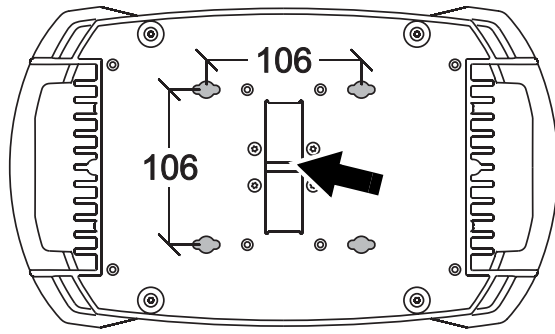

Figure 3: Safety cable attachment point
5. See Figure 3. Secure the fixture against clamp or bracket failure with a safety wire that can bear at least 10 times the weight of the fixture using the attachment point marked "SAFETY WIRE" in the base of the fixture. This attachment point is designed to fit a carabiner clamp. Do not use carrying handles as safety attachment points.